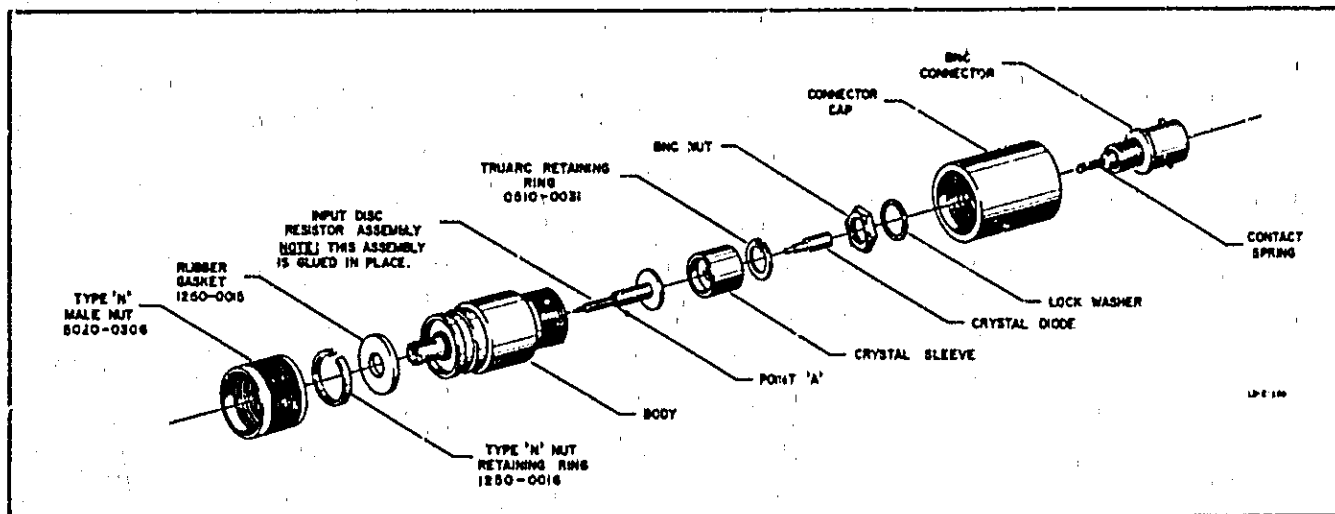

Figure 4. Assembly Drawing
20. Replacing Crystal. Refer to figure 4 and proceed as follows:
- (1) Waldes Truarc pliers No. 1.
- (2) Tweezers.
- (3) Female pin out of a type N connector or similar sleeve approximately 1 inch or longer with an outside dimension of less than 0.12 inch.
- (4) Plastic hammer.
b. Procedure. Refer to figure 4 and proceed as follows:
- (1) Remove connector cap.
- (2) Remove crystal
- (3) Remove Truarc retaining ring.
- (4) Remove crystal sleeve.
- (5) Place the body so it rests on the threaded end. With a plastic hammer and the sleeve (item 3 of the Required Tools), tap the Disc Resistor Assembly lightly until the seal with the body is broken.
- (6) Remove the Disc Resistor Assembly with care, as the inside of the detector body can be scratched.
- (7) Place a small quantity of Duco cement on the Disc Resistor Assembly replacement at Point A (see figure 4), and insert the assembly into the body.
- (8) Restore crystal sleeve and Truarc retaining ring.
- (9) Restore crystal.
- (10) Restore Connector cap.
22. Replacing BNC Connector. For removal and installation of a BNC connector, a BNC wrench or similar tool is needed. Refer to figure 4 and proceed as follows: